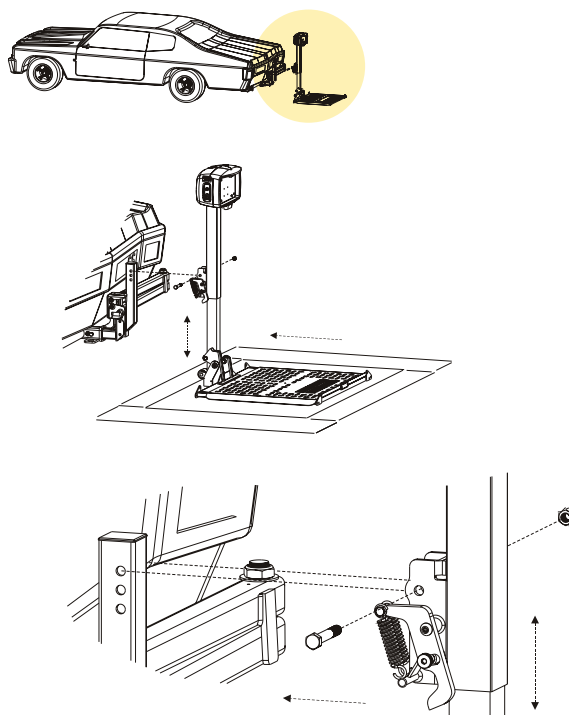

Figure 4-14
4. Stand the lift up, use the switch to line up the hitch post or swing away with the lift and fasten in place. *See Figure 4-14.*